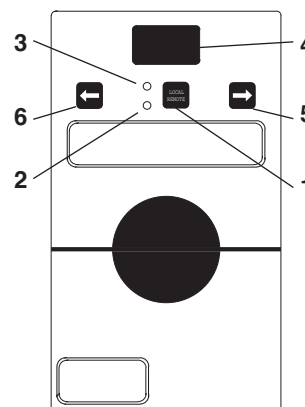

Fig. 10. EV Fluid Processor displays and manual selectors.
1. The EV Fluid Processor and control panel is shown in Figure 10. Display and operations are:
- a) Local-Remote button (1)
- b) Remote indicator light (2)
- c) Local indicator light (3)
- d) Valve/column position [LED] (4)
- e) Manual forward position selector button (5)
- f) Manual reverse position selector button (6)